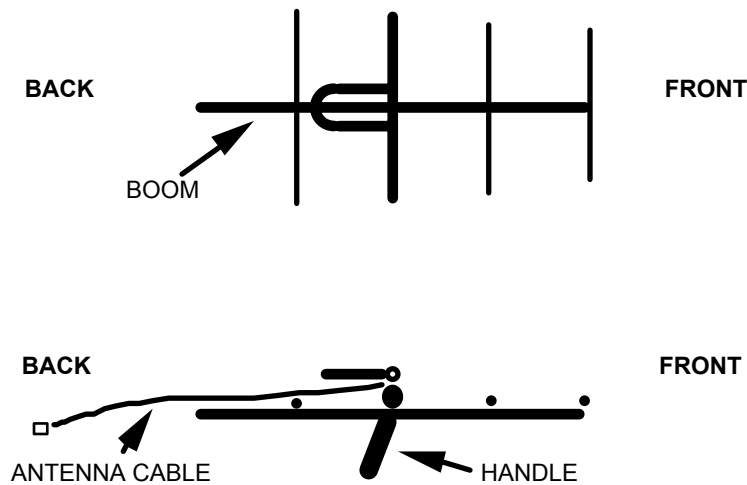

Figure 2. Yagi antenna illustrating vertical (top) and horizontal (bottom) polarization.
3.0 When the Locator is needed to find someone outdoors, locate the exit door used by the patient and start the sweep there. Have someone accompany you to assist in watching for moving vehicles (if searching near a road) while you are busy listening for the Transmitter. Caution should be observed when handling the Yagi antenna to not poke someone with its elements. An illustration of a Yagi antenna is shown in Figure 2.
3.3 Once outside with the Locator, do a 360° sweep (if you have no idea of which direction the wanderer has gone) with the antenna held such that the elements are vertically positioned (see figure 2, Vertically polarized position).